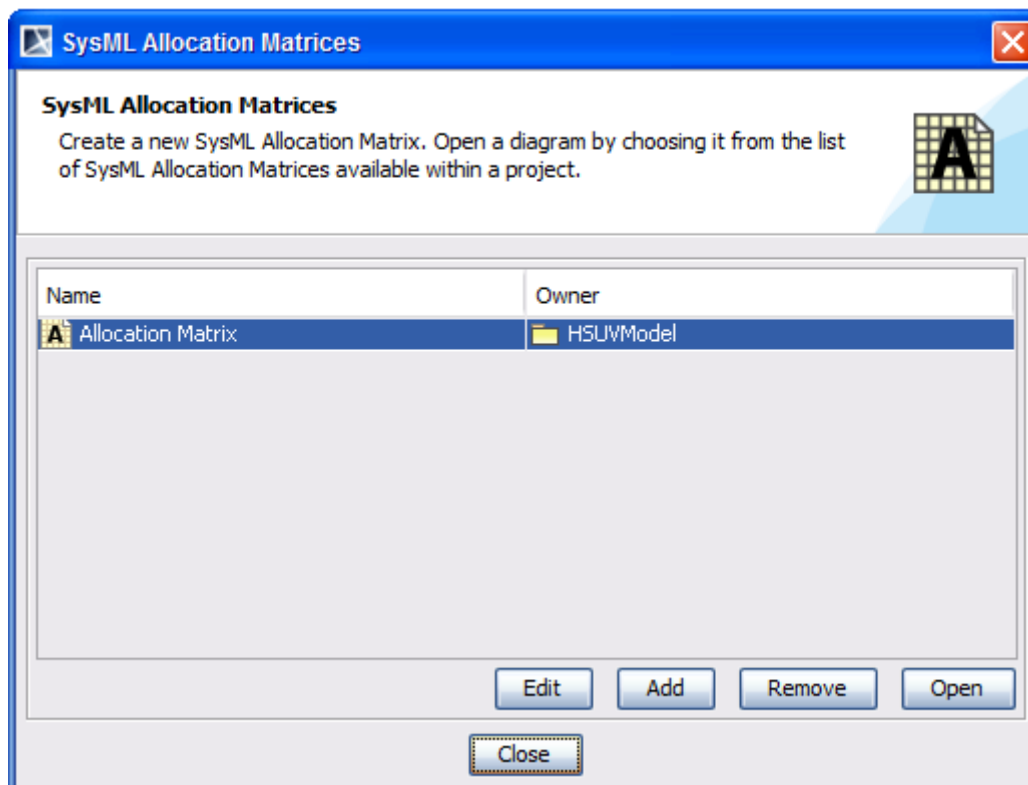

Figure 261 -- SysML Allocation Matrix Dialog
3. A dialog of the selected matrix will open. For example, select **SysML Allocation Matrices...**, the **SysML Allocation Matrix** dialog will then open (Figure 261). Click the **Add** button in the dialog.